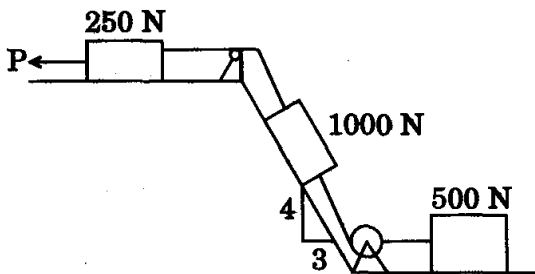

Figure 8
- (b) Determine the constant force 'P' that will give the system of bodies shown in Figure 8 a velocity of 3m/sec after moving 4.5 m from rest. Coefficient of friction between the blocks and plane is 0.3. Pulleys are smooth.